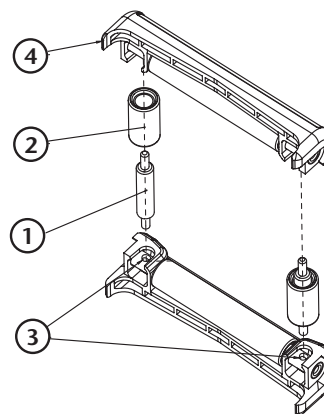

Fig. 16
4. Now take the short axles (2) (fig. 16) to go through the short rollers (1) (fig. 16) and use these components to join both preassembled components made in the previous step (4) (fig. 16). For doing this, manually exert pressure to introduce the short axles pins, in the long axles holes (3) (fig. 16).
10. Loosen the four casing bolts (5) (fig. 16). At this point, you can take apart both casing sides (6) (fig. 16). Keep the casing to be able to assemble it again later.